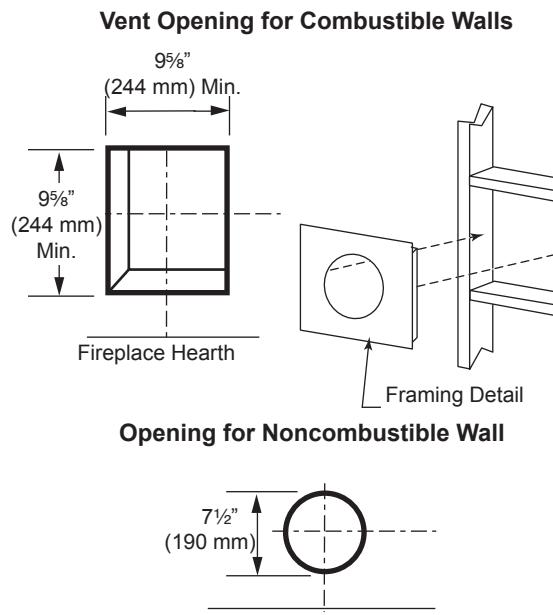

Figure 27 - Locate vent opening on wall.
Locate vent opening on the wall. It may be necessary to first position the fireplace and measure to obtain hole location. Depending on whether the wall is combustible or noncombustible, cut opening to size. *Figure 27* (For combustible walls first frame in opening.)
Combustible Walls: Cut a 9 $\frac{5}{8}$ "H x 9 $\frac{5}{8}$ "W (244 x 244 mm) hole through the exterior wall and frame as shown. *Figure 27*
1. Establish vent hole through the wall. *Page 19, Figure 27*